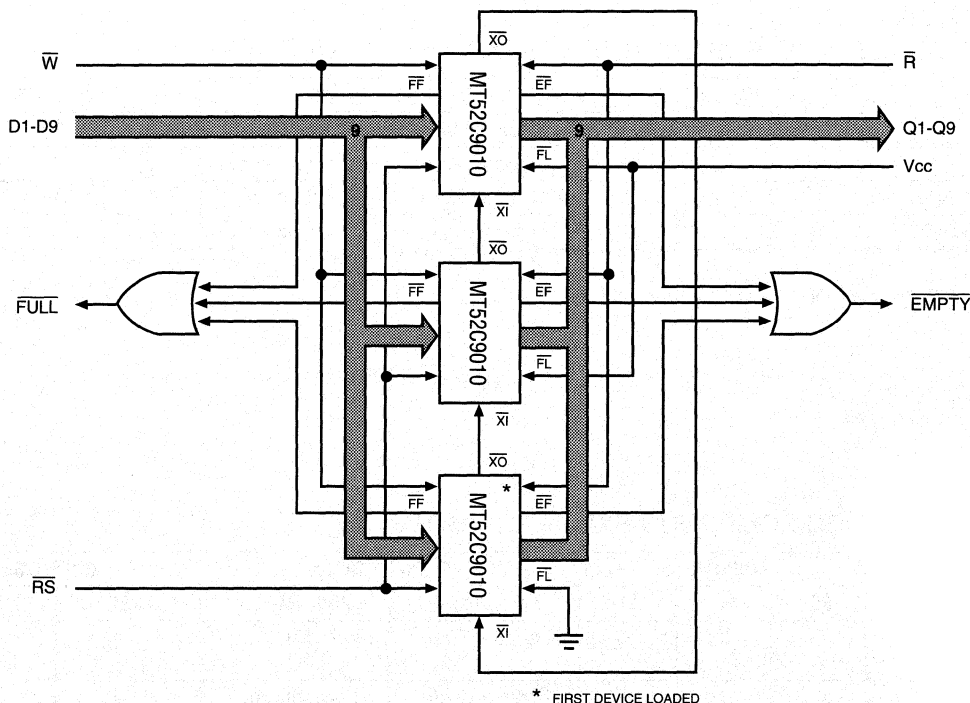

Figure 1
The FIFO word width can be expanded, in increments of 9 bits, using either the stand alone or groups of expanded-depth mode FIFOs. Expanded-width operation is achieved by tying devices together with all control lines (\bar{W} , \bar{R} , etc.) in common. The flags are monitored from one device or one expanded-depth group (Figure 1) when expanding depth and width.
Multiple MT52C9010s may be cascaded to expand the depth of the FIFO buffer. Three pins are used to expand the memory depth, $\bar{X}1$, $\bar{X}0$ /(HF) and $\bar{F}L$ /(RT). Figure 1 illustrates a typical three-device expansion. The DEPTH EXPANSION mode is entered during a RESET cycle, by tying the $\bar{X}0$ /(HF) pin of each device to the $\bar{X}1$ pin of the next device in the chain. The first device to be loaded will have its $\bar{F}L$ /(RT) pin grounded. The remaining devices in the chain will have $\bar{F}L$ /(RT) tied HIGH. During RESET cycle, $\bar{X}0$ /(HF) of each device is held HIGH, disabling reads and